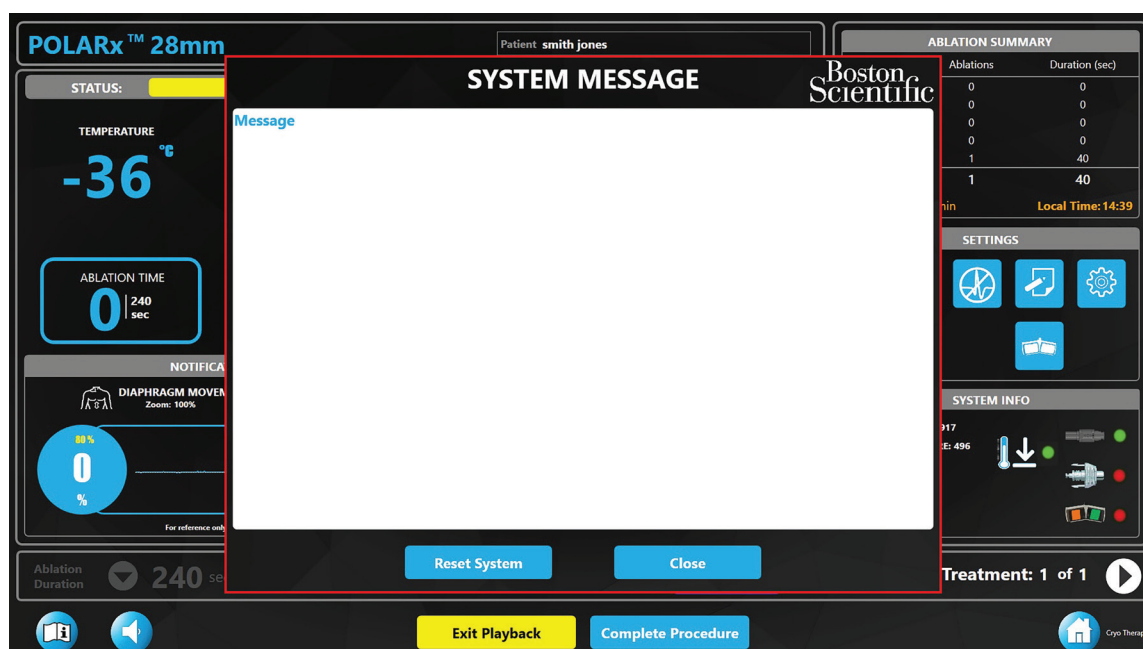

Figure 23. Cleared System Message
- Press the **Close** button to close the **System Message** window (see Figure 23).